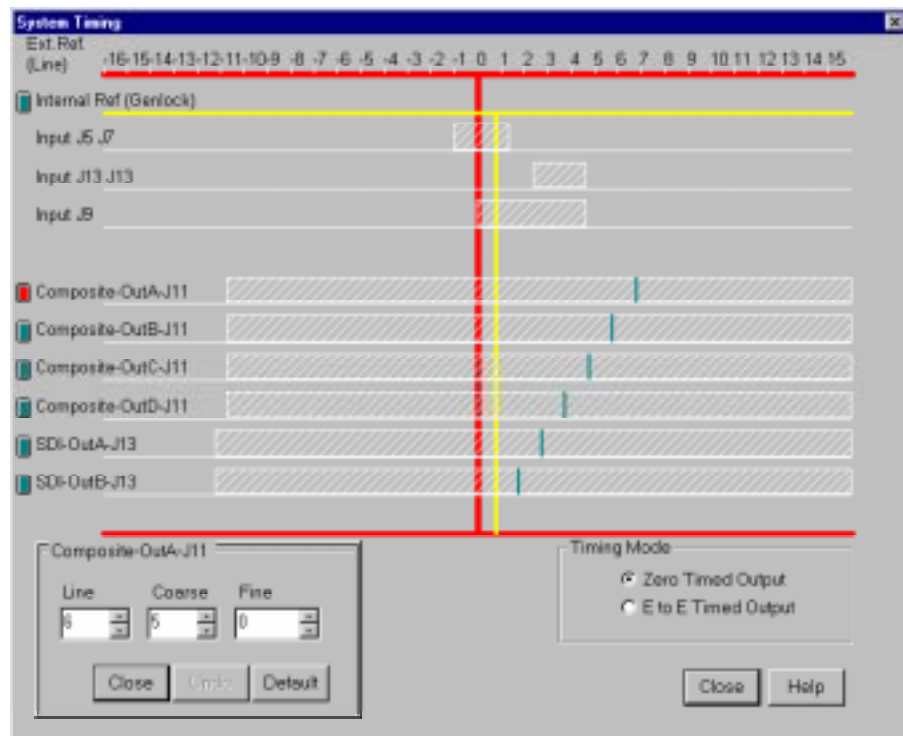

Figure 11. System Timing dialog box, E to E timed
2. Click any button to the left of the internal reference (genlock) or video output signal name and the timing edit box appears in the bottom left of the System Timing dialog box (see Figure 11 which shows the dialog box when the outputs are E to E timed).